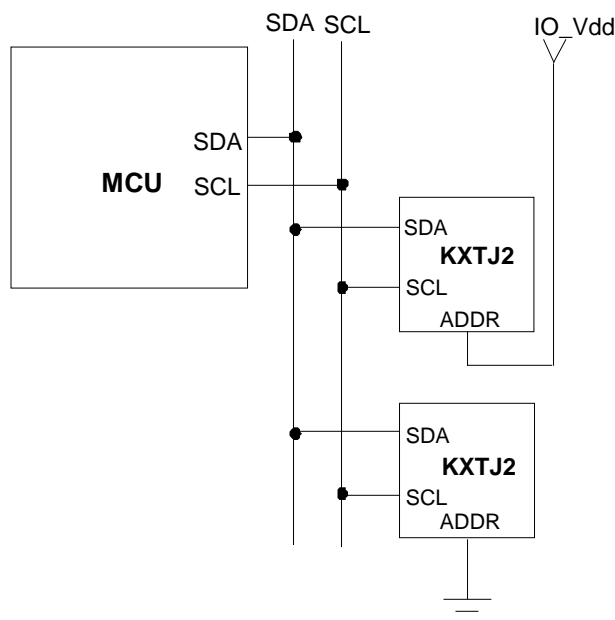

Figure 1. Multiple KXTJ2 I²C Connection
Transactions on the I²C bus begin after the Master transmits a start condition (S), which is defined as a high-to-low transition on the data line while the SCL line is held high. The bus is considered busy after this condition. The next byte of data transmitted after the start condition contains the Slave Address (SAD) in the seven MSBs (Most Significant Bits), and the LSB (Least Significant Bit) tells whether the Master will be receiving data '1' from the Slave or transmitting data '0' to the Slave. When a Slave Address is sent, each device on the bus compares the seven MSBs with its internally stored address. If they match, the device considers itself addressed by the Master. The KXTJ2's Slave Address is comprised of a programmable part and a fixed part, which allows for connection of multiple KXTJ2's to the same I²C bus. The Slave Address associated with the KXTJ2 is 000111X, where the programmable bit, X, is determined by the assignment of ADDR (pin 1) to GND or IO_Vdd. Figure 1 above shows how two KXTJ2's would be implemented on an I²C bus.